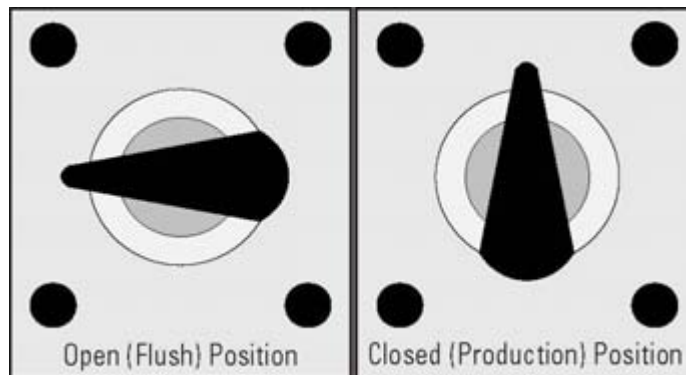

Figure 2. Front Mounted Flush Valve
for 2 minutes once per week is ideal (See Figure 2, next page) .
- a) After connecting your system to the faucet and turning the cold water on, simply move the black handled valve on the front of your KT-90, SS-90 or RDT housing parallel to the countertop. (See Figure 2 above) This will open the flush valve and allow water to rapidly flow across the surface of the Aquathin RO membrane, washing away contaminants which, if allowed to accumulate, might clog the pores of the membrane. You should notice a strong flow of water coming from the bottom of the quick-connect coupler.